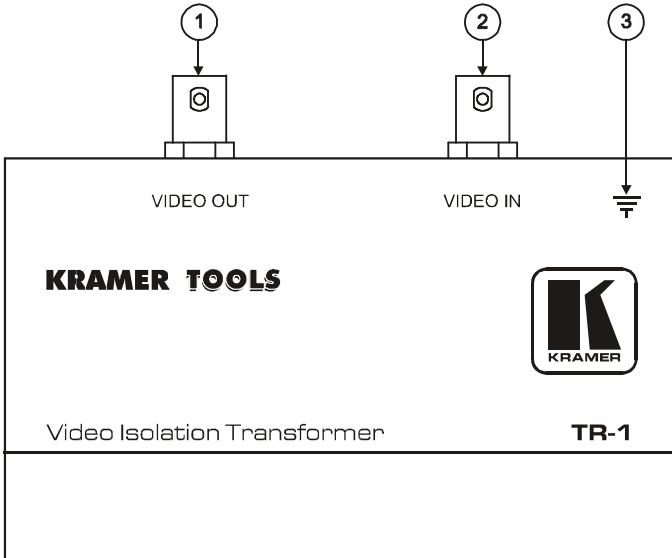

Figure 1: TR-1 Video Isolation Transformer
- Figure 1 and Table 2 define the **TR-1 Video Isolation Transformer**